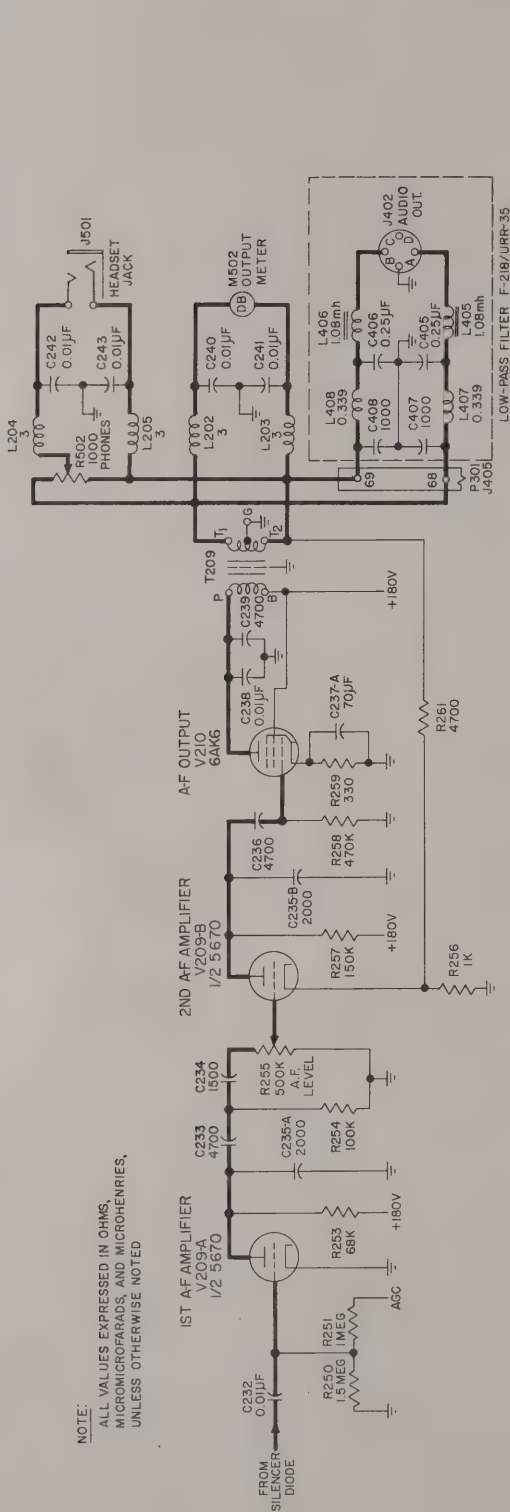

Figure 2-10. Audio-Amplifier Stages, Simplified Schematic Diagram
b. AUDIO-FREQUENCY STAGES.—The audio-frequency stages of the radio receiver, shown in figure 2-10, are conventional in most respects. The first and second a-f amplifiers, V209-A and V209-B, are the two halves of a type 5670 twin triode. The input signal is applied from the silencer diode through coupling capacitor C232 to the grid of V209-A. Bias is applied to the control grid from the AGC source through a voltage divider, R250 and R251. In the plate circuit, capacitor C235-A attenuates the unwanted higher frequencies, so that only the voice frequencies necessary to efficient communication legibility are amplified. The output of this amplifier is applied to a two-section high-pass filter which helps establish the lower limit of the 350- to 3500-cps audio passband. The filter is composed of capacitor C233, resistor R254, capacitor C234 and potentiometer R255. The signal is transferred through the wiper arm of the potentiometer, the A.F. LEVEL control, to the control grid of V209-B, the second a-f amplifier. Degenerative feedback is provided in this stage by the use of an unbypassed cathode resistor, R256, and by the feedback loop established from the secondary of output transformer T209, through resistor R261, to the unbypassed cathode resistor. The amplified output of the second a-f amplifier is applied to the grid of the a-f output stage, V210. This tube, a 6AK6 power pentode, delivers approximately 1.1 watts, with a total distortion of approximately 5 percent, to audio output transformer T209. Cathode resistor R259 is bypassed by capacitor C237-A. Capacitors C238 and C239, in the plate circuit of V210, set the high-frequency limit of the audio circuit at 3500 cycles per second, as does C235-B in the plate circuit of V209-B.